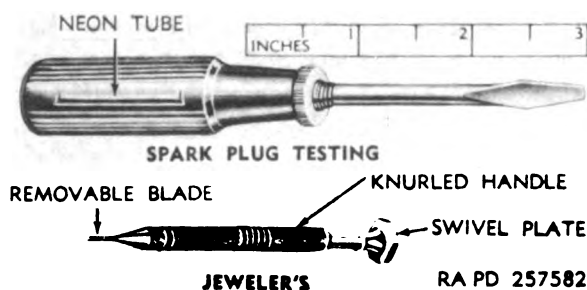

Figure 112. Jeweler's and spark plug testing screwdrivers.
h. Jeweler's Screwdrivers. Jeweler's screwdrivers (fig. 112) are made for driving and removing small size screws. The tips range from 0.025 inch to 0.1406 inch wide. They usually have knurled handles, a swivel end finger rest plate, and some have removable blades.
i. Spark Plug Testing Screwdriver. A neon tube, inserted in an electric shock proof handle of a common screwdriver, tells the condition of a spark plug by the type of flash. A brilliant flash means good condition, a thin flash indicates too narrow a gap, and no flash means a short. This screwdriver is equipped with a 2¼-inch blade and a pocket clip (fig. 112).